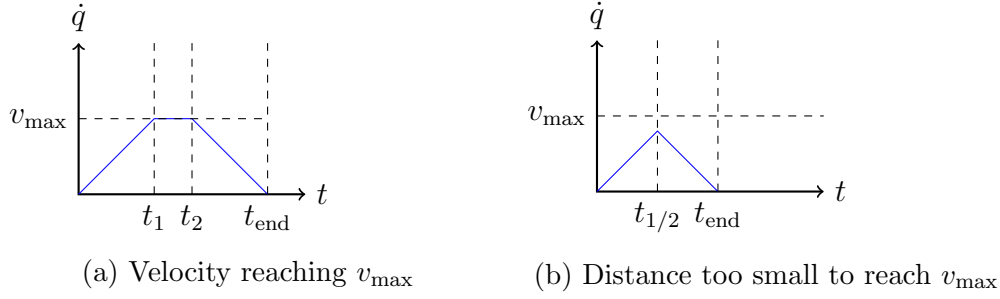

Figure 1: Two examples for velocity curves
a) Find the critical distance  $s_{\text{crit}}$  for a given  $v_{\text{max}}$  and  $a$  to distinguish between the two cases in fig. 1.